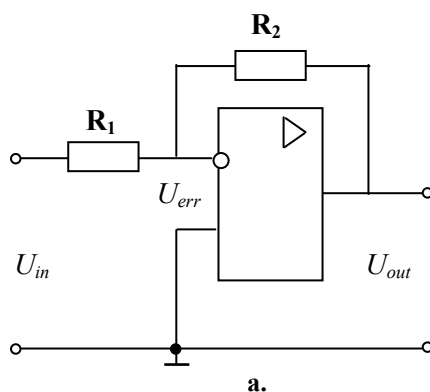

Fig. 2.20
**Inverting feedback voltage amplifier.** An inverting amplifier given in Fig. 2.20,a also uses the negative feedback to stabilize the working conditions in the same way. Here, the output voltage drives the feedback resistor  $R_2$ , which is connected to the inverting input. The voltage gain is given by
The circuit characteristic is linear. By virtue of the negative voltage gain, the amplifier inverts the input signal. In the case of  $R_1 = R_2$  the circuit is called an *inverter* because the output signal is equal to the inverted input signal. Its circuit symbol is shown in Fig. 2.20,b.